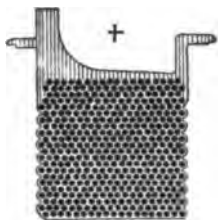

FIG. 265.—The positive plate of a storage cell.
**288. Construction and Action of a Storage Cell.**—The common type of storage cells consists of a *number of perforated* plates made of an alloy of lead and a little antimony. (See Figs. 265, 266, 267.) Into the perforations is pressed a paste of red lead and litharge mixed with sulphuric acid. The plates are placed in a strong solution (20 to 25 per cent.) of sulphuric acid. The plates are now ready to be charged. This is accomplished by sending a direct current from an electric generator through the cell. The hydrogen ions are moved by the current to one set of plates and change the paste to *spongy* metallic lead. The sulphurions move to the other set of plates and change the paste to lead oxide. This electrolytic action causes the two plates to become quite different chemically so that when the cell is fully charged it is like a voltaic cell, in having plates that are different chemically. It has, when fully charged, an E.M.F. of about 2.2 volts. The several plates of a cell being in parallel and close together, the cell has but small internal resistance. Consequently a large current is available.